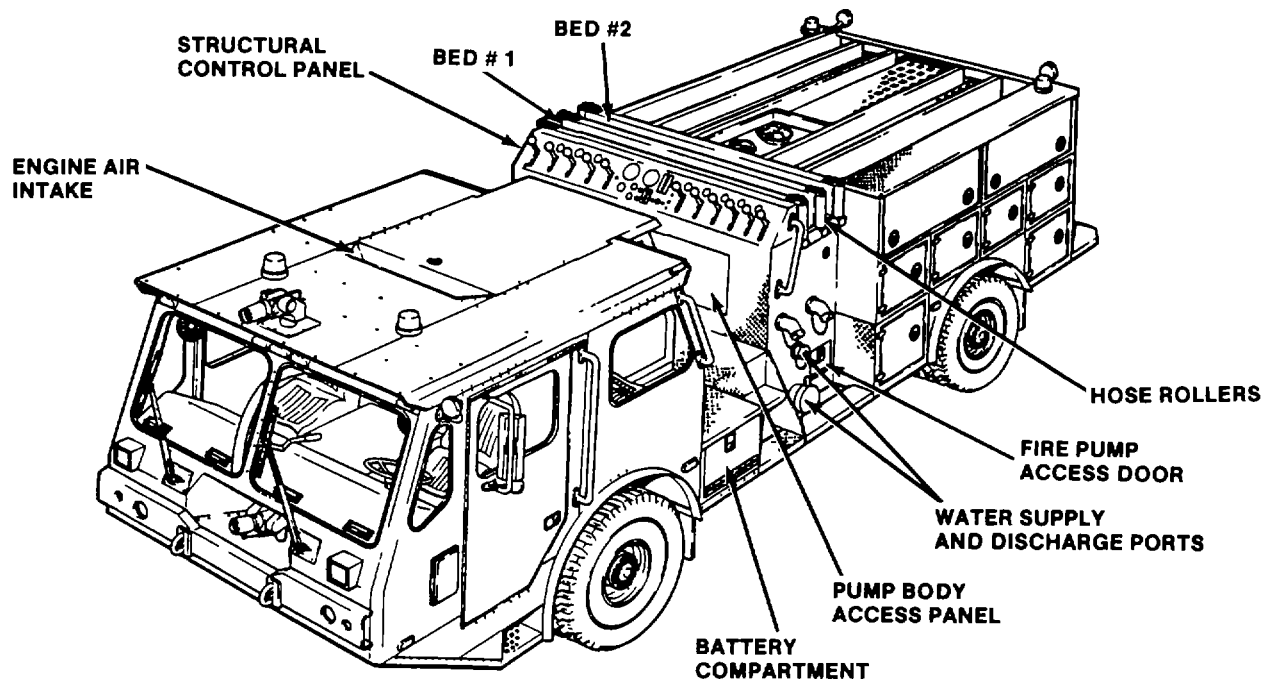

Figure 1-4 Cab and Pump Body Components (Continued)
(6) The fire wall dividing the cab also forms part of the engine compartment. The left and right sides of this compartment have large removable panels to provide service access. The top of the compartment is provided with an engine air intake opening. The pump body encloses the fire pump, piping, and control valves for the firefighting system. To access this equipment, the front face of the body is provided with a large removable panel and the side faces with smaller access doors. A control panel for structural firefighting is located at the top front of the body. Refer to Chapter 2 for operating details of the control levers and indicators. The lower front part of the pump body consists of two steps on each side and a catwalk across the truck. The steps and catwalk provide access to the rear crew seats and the structural control panel. The steps and catwalk are clad with non-skid aluminum sheeting.
(7) The rear engine compartment panel is provided with vent holes. During winter operation, warm air from the engine, vented through these holes, keeps the catwalk free of ice.
(8) Draft, hydrant, and water discharge ports are located on both the left and right side of the pump body, (see fig. 1-4). The top of the body contains two cross-lay hose beds. These beds are equipped with vertical and horizontal aluminum hose rollers at both ends to ease hose play-out from either side of the truck. The beds accommodate 1-1/2 inch fire hose. The beds are identified as BED #1 (front bed) and BED #2 (aft bed). A hinged step is attached to each side of the body to provide access to these hose beds.